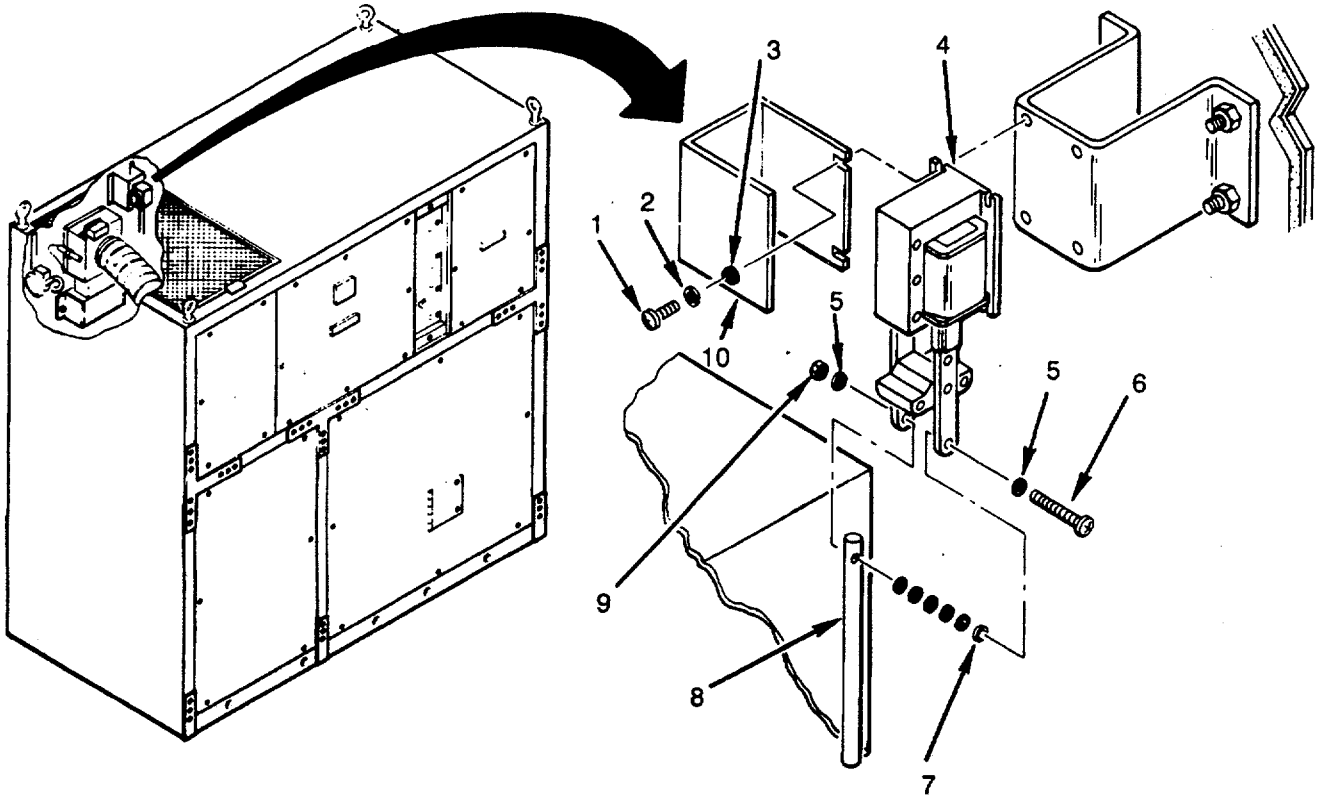

Figure 4-69. Fresh Air Damper Solenoid (L3)
1. Check for loose, corroded, missing or broken connections (see Figure 4-69).
3. Check solenoid (4) for cracks, evidence of overheating, and other visible damage. Replace solenoid, if defective.